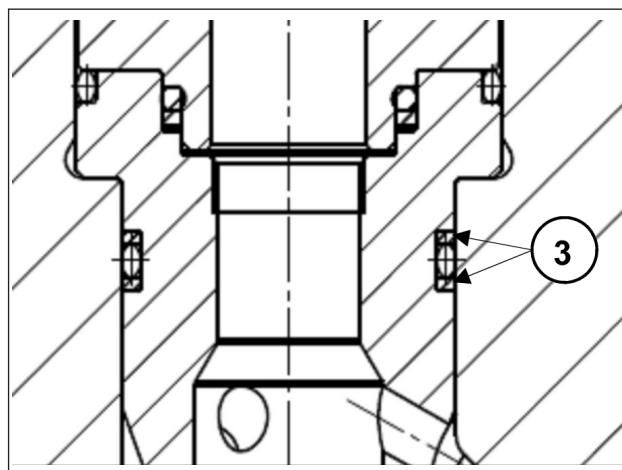

Fig. 35
- 2 **Insert the suction and outlet valve units with their bushes, checking that they are fully inserted in the head seat. Take special care not to damage the anti-extrusion rings on the bushes (Fig. 35, pos. ③). For correct positioning and adjustment of rings in their respective housings proceed as follows:**